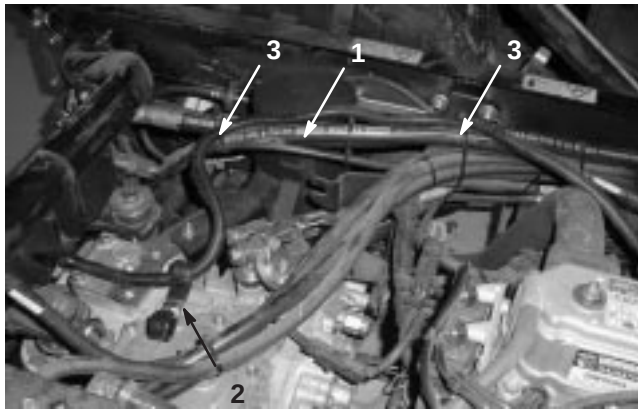

Figure 5
1. Route the ring terminal end of the power wire harness to the tow vehicle battery (Fig. 5 & 7).
3. Secure the harness to the tow vehicle with wire ties at locations shown in figure 5.
4. Install (2) J-Clips to the top of the transmission with a 8 mm x 2 screw (Fig. 5).
5. Route the harness thru the left J-Clip as shown in figure 5.